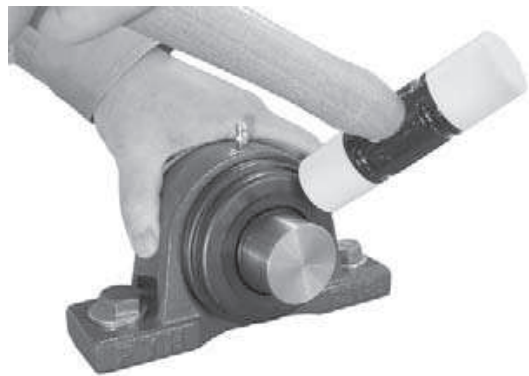

Fig. 14.13 Installing steel plate covers
- (2) Make sure that the bearing unit is securely fixed to the shaft and mounting base.
- (3) Slide the cover over the shaft to the groove in the housing and lightly press it into place.
- (4A) For stamped steel covers, use a plastic mallet to prevent deformation, and evenly tap all around the periphery of the cover to install it to the housing (Fig. 14.13).